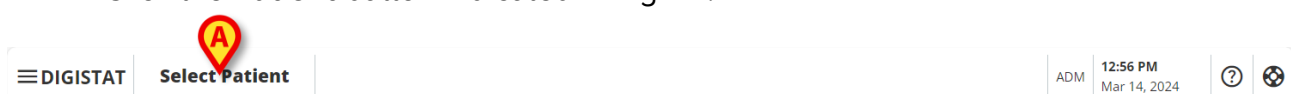

Fig 1
- Click the **Patient** button indicated in Fig 1 A.